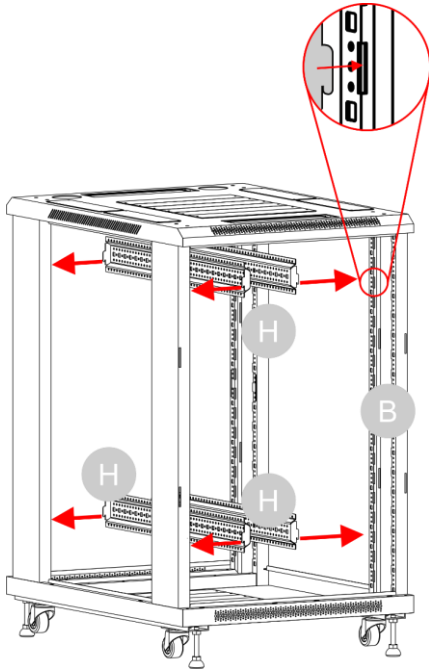

Fig. 29
- 13) Slide the 4 **horizontal brackets (H)** into the holes of the 2 **frames (B)**, as shown in Fig. 29. Make sure that the **horizontal brackets (H)** are installed horizontally and are not inclined.